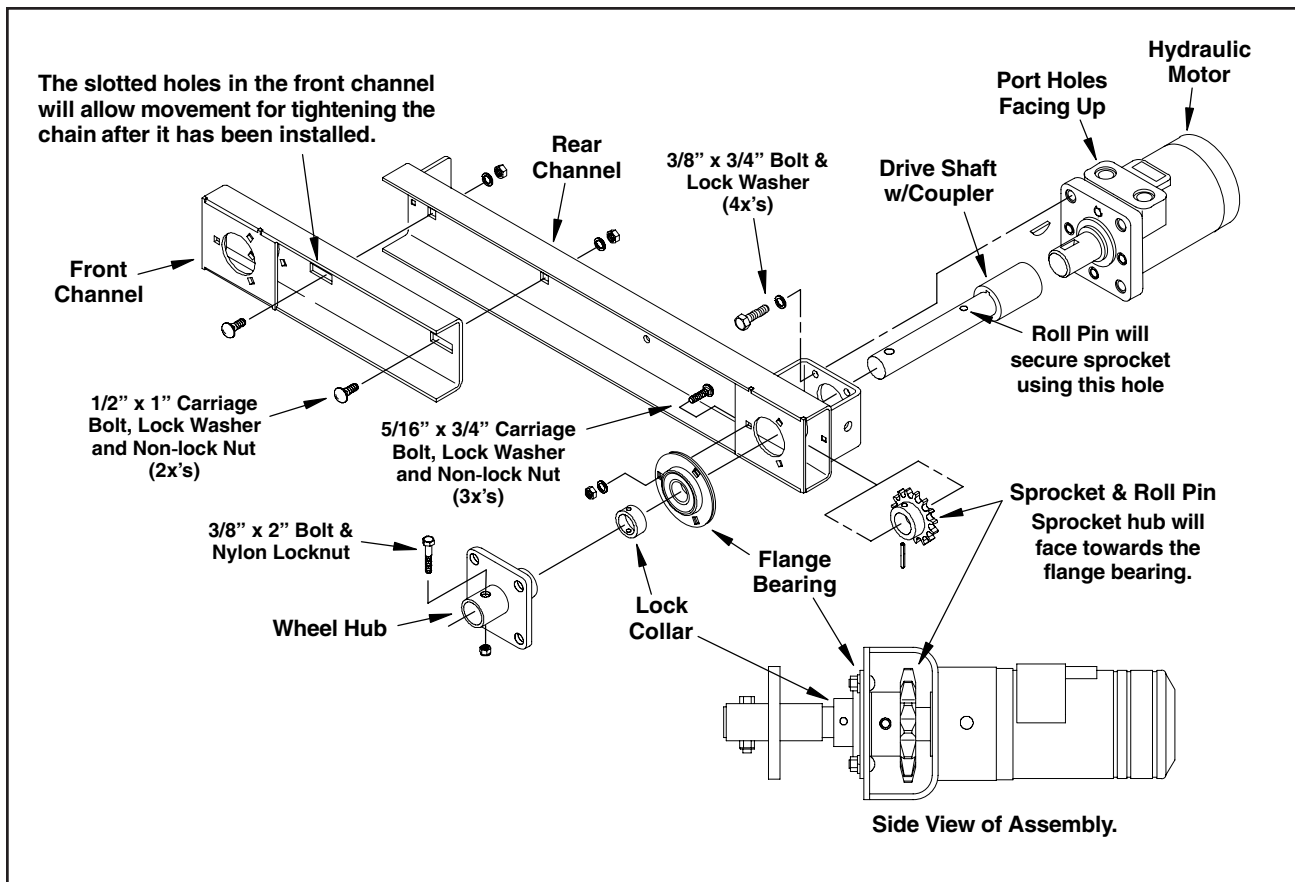

Fig. 2
1. Attach the front and rear channels together as shown in Fig. 2. Secure using two 1/2" x 1" carriage bolts, lock washers and non-lock nuts, the bolts need to be installed from the inside, out.